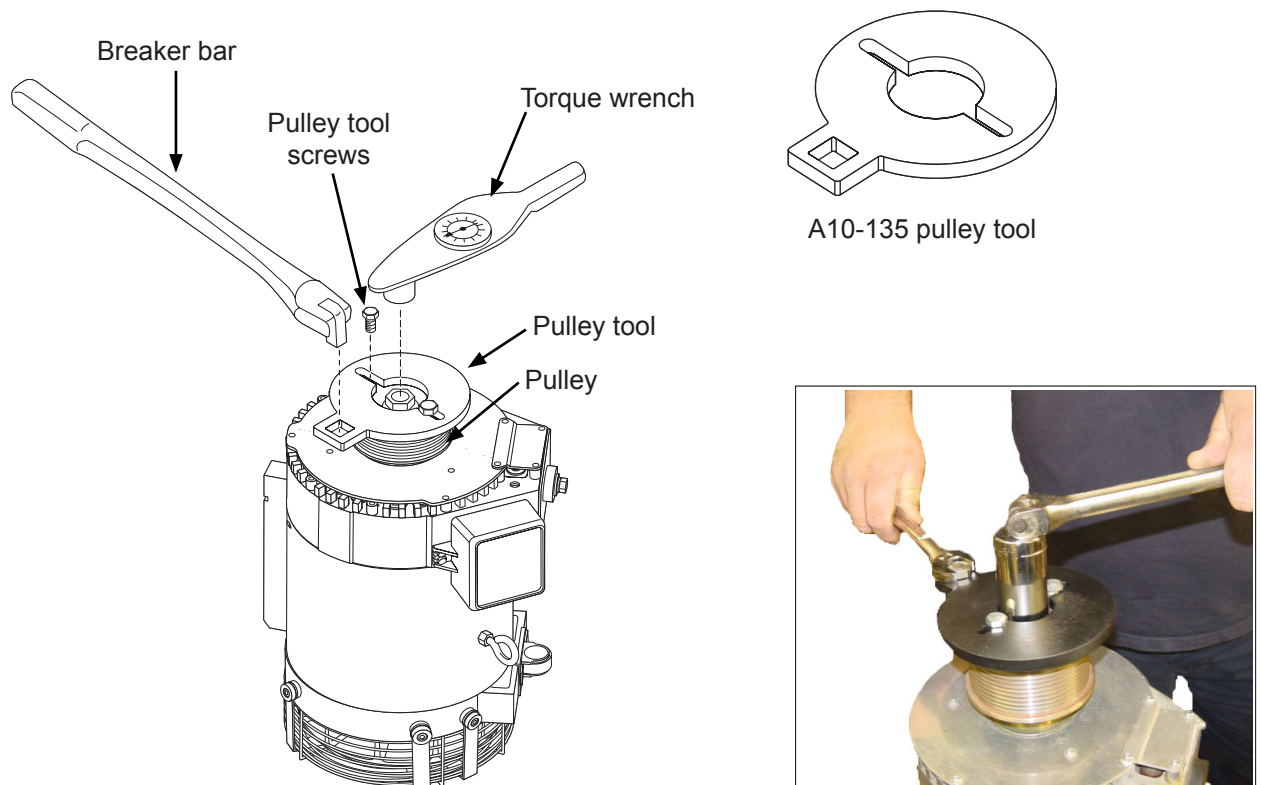

Figure 9
5. Place CEN A10-135 pulley tool over pulley and align slots on tool with screw holes on top of pulley. See Figure 9 on page 3.